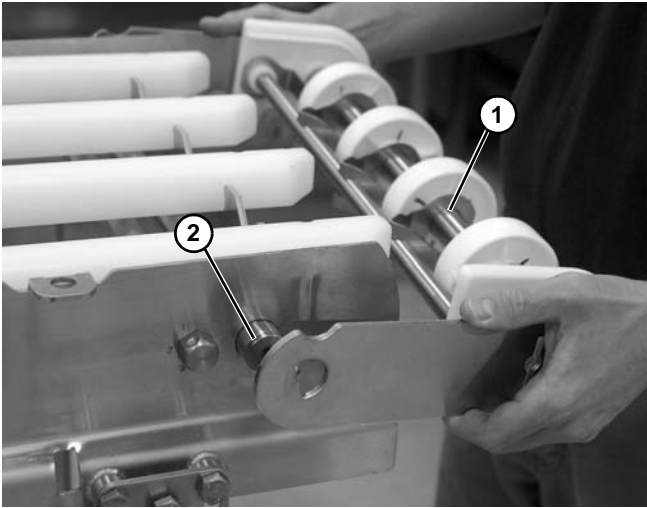

Figure 66
3. Remove idler assembly (**Figure 66, item 1**) from each end of tip up assembly (**Figure 66, item 2**) on conveyor frame.